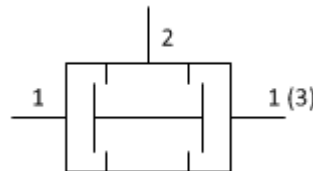

FIG 4.
B. The symbol for a dual pressure valve is shown in Fig 4.